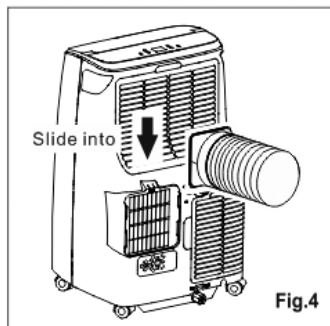

Fig. 4
5. Install the hose inlet into the unit (Fig. 4).